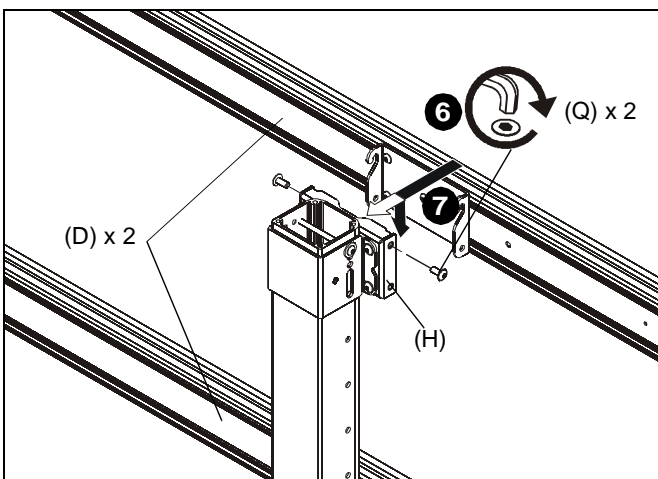

Figure 5
- Install two 5/16-18 x 3/4" button head flange screws (Q) into the top holes on each quick connect base (H). (See Figure 5)
- Hang rails (D) into screws installed in previous step to quick connect bases (H). (See Figure 5)